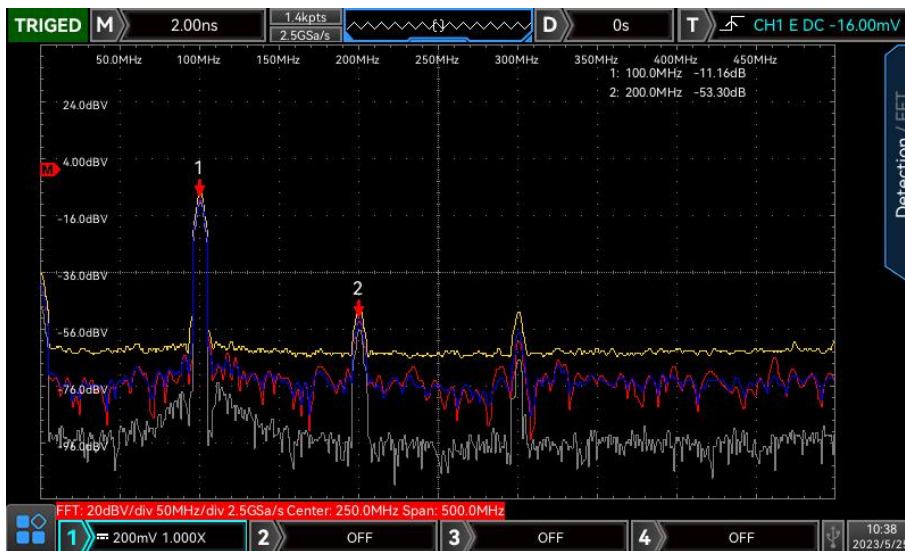

Figure 15-2
c. Independent screen : Only display FFT wave for observing frequency spectrogram more clearly, as shown in Figure 15-2.